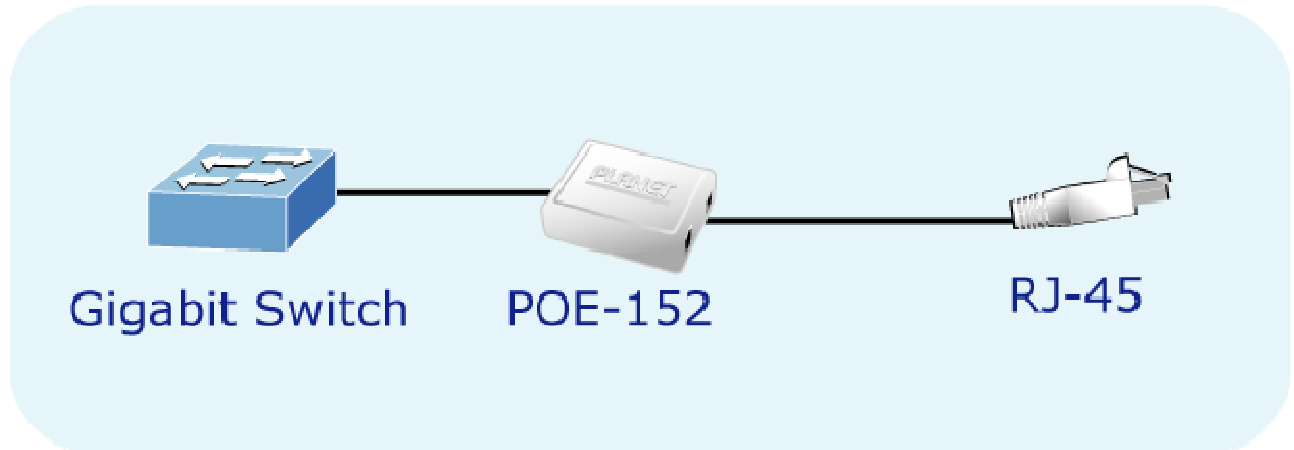

Figure 1: the Injector installation
2. Connect the long cable that will be used to connect to the remote device to the port “Ethernet + DC”. The screen in Figure 1 appears.